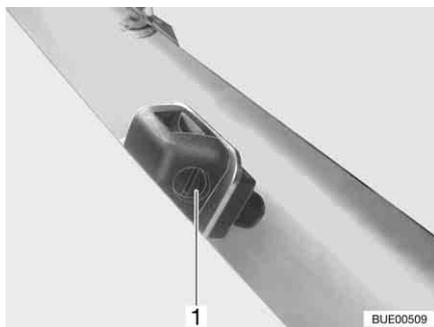

Fig. 40 Washer nozzle
- Use a suitable screwdriver to turn the adjusting screw (Fig. 40,1) until you reach the desired position.